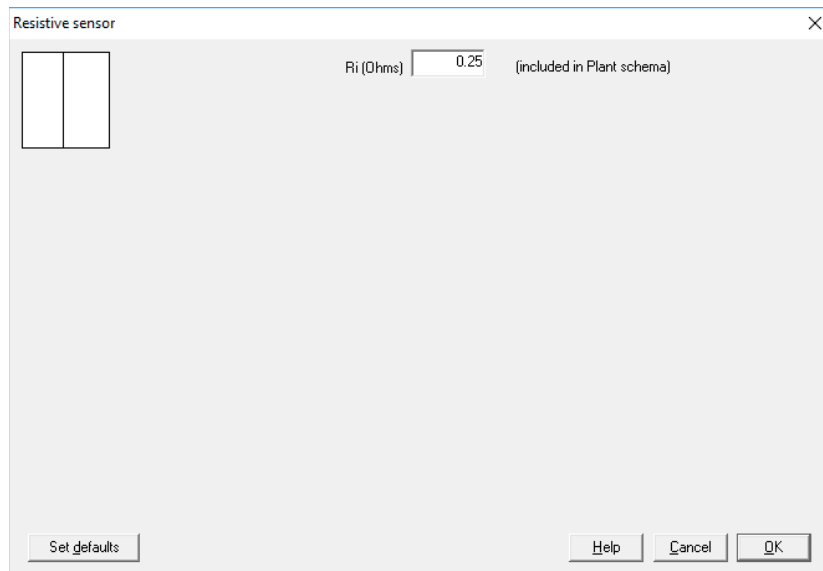

Figure 6: inner loop current sensor
2. Select the gain of the inner loop current sensor. See Figure 6.